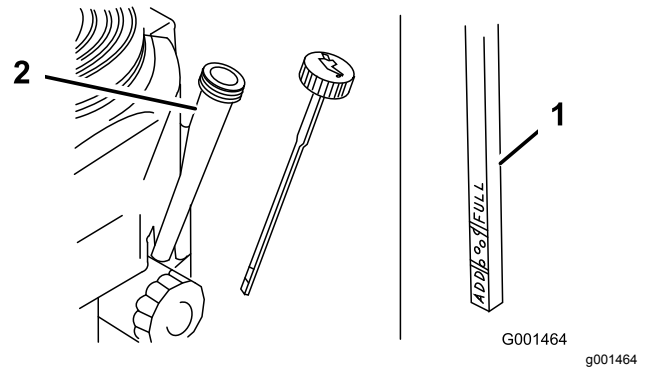

Figure 25
4. Unscrew the oil dipstick and wipe the end clean (Figure 25).
5. Slide the oil dipstick into the filler tube fully, but do not thread it onto the tube (Figure 25).
3. Clean around the oil dipstick (Figure 25) so that dirt cannot fall into the filler hole and damage the engine.
10. Slowly pour approximately 80% of the specified oil into the filler tube (Figure 25).